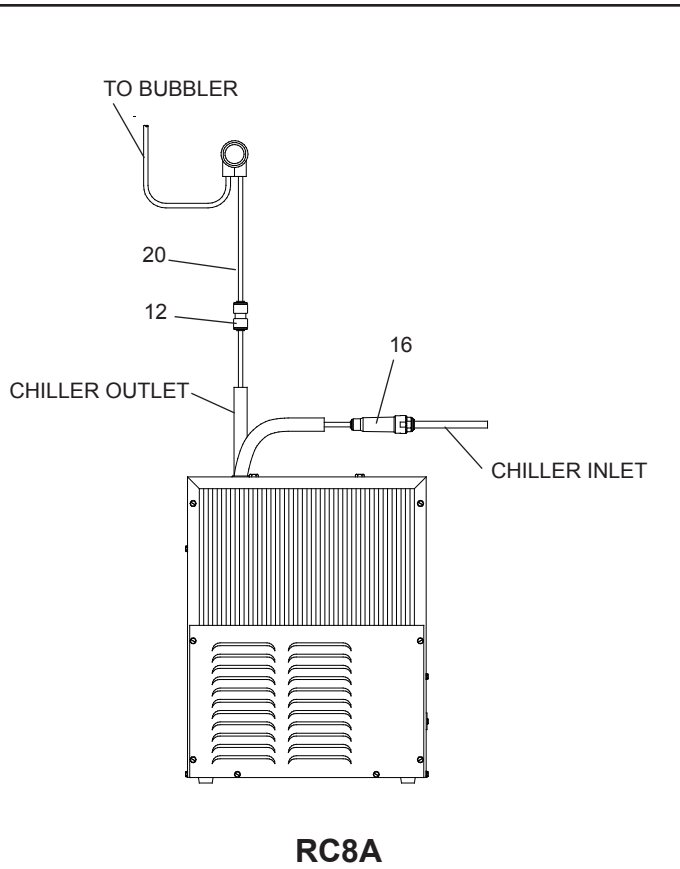

FIG. 8
8. **Water** supply connections (See Figs. 8, 9, & 10)
RC8A Models – Make connections between remote chiller and building supply line. Inlet port is marked on the chiller (1/4" O.D. copper tube). Bend the copper tube (provided) at an appropriate length from chiller to opening in frame. Install the in-line strainer (provided with chiller) by pushing it in until it reaches a positive stop, approximately 3/4" (19mm) on the marked chiller inlet port. Connect building supply line to strainer. **DO NOT SOLDER TUBES INSERTED INTO THE STRAINER AS DAMAGE TO THE O-RINGS MAY RESULT.** (See Fig. 8) **Make connections between remote chiller outlet tube and fountain.** Outlet port is marked on the chiller (1/4" O.D. copper tube). Install a 1/4" x 1/4" union (provided) on the marked chiller outlet port. Insert the 1/4" poly tubing coming from the fountain into the union. Turn on the water supply and check for leaks. **DO NOT SOLDER TUBES INSERTED INTO THE UNION AS DAMAGE TO THE O-RINGS MAY RESULT.** (See Fig. 8)